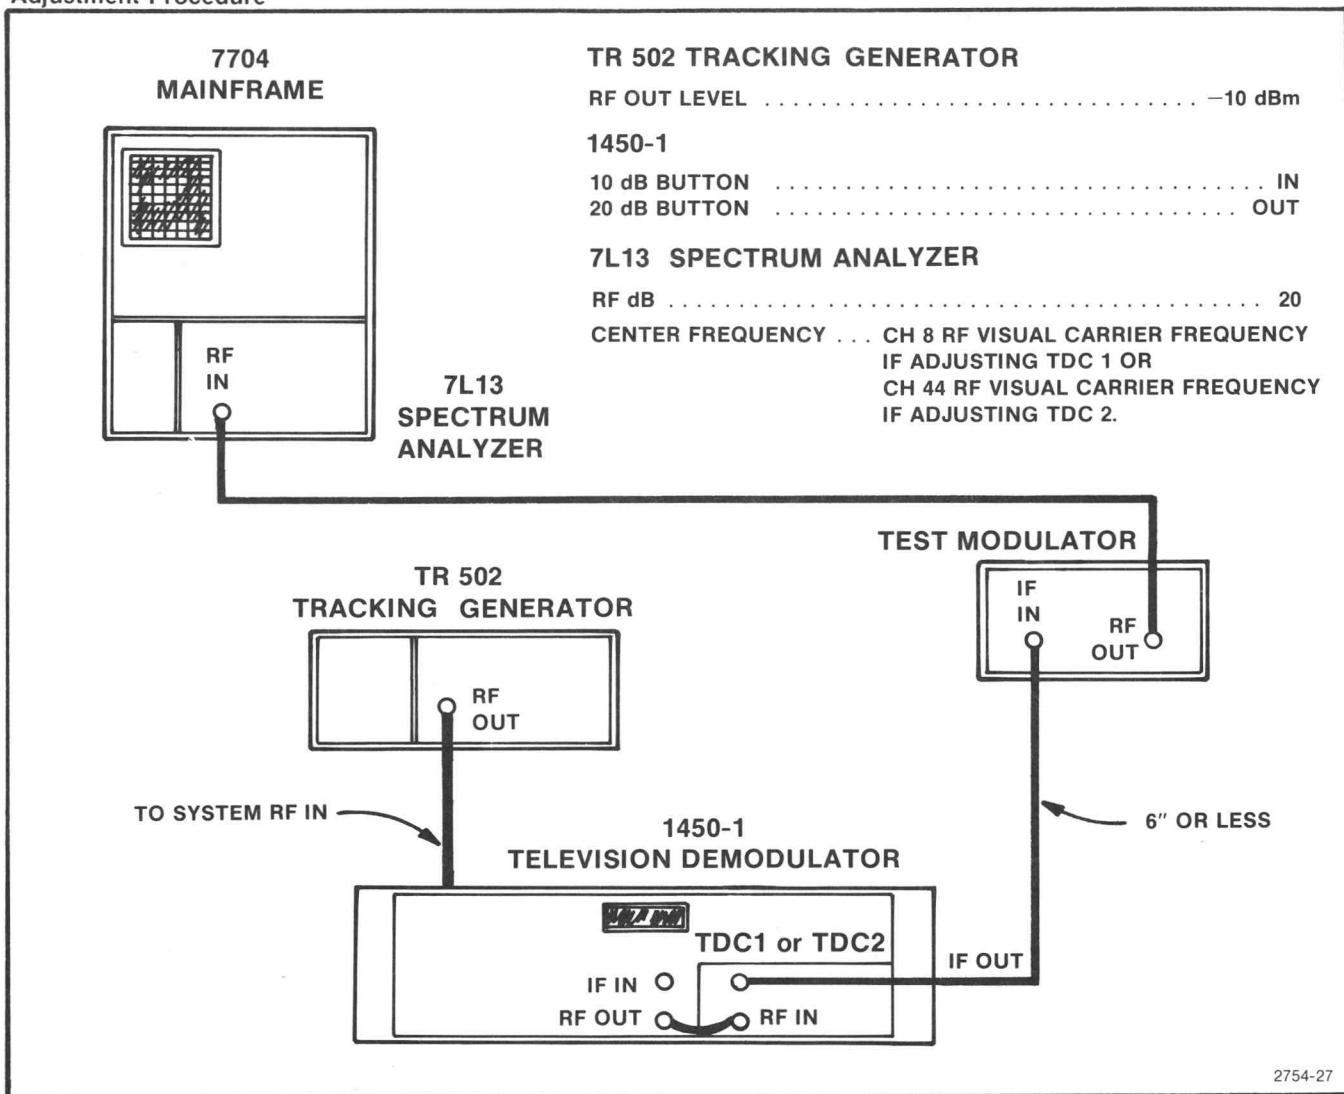

Fig. 4-16. Test Setup for Adjusting Down Converter Insertion Gain and Overall Flatness.
- b. Now, connect the test equipment as shown in Fig. 4-16. Tune the down converter to channel 8 if adjusting a TDC1 or channel 44 if adjusting a TDC2. See Table 4-2 for channel frequencies.